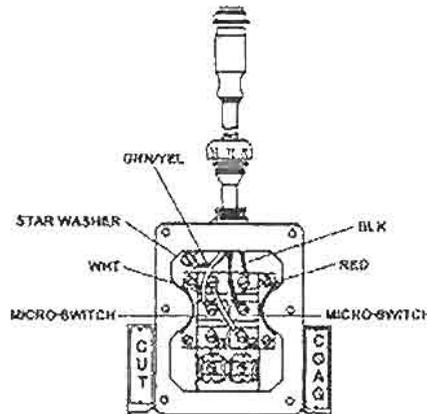

Figure 3-34. Micro-switch replacement.
(1) Micro-switch replacement (fig 3-34).